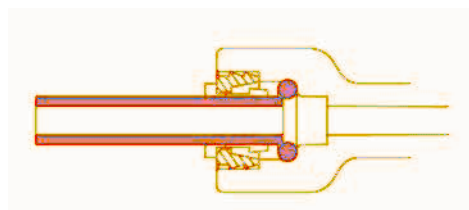

Figure 17
1. Push tubing through collet, until it engages the o-ring. See Figure 17. Continue pushing until the tube bottoms out against the back of the fitting. See Figure 18. A common mistake is to stop pushing when the tube engages the o-ring. This will lead to future leaks. When a 1/4" tube is fully engaged, 11/16" of the tube has entered the fitting. When a 3/8" tube is fully engaged, 3/4" of the tube has entered the fitting. See Figures 17 & 18.